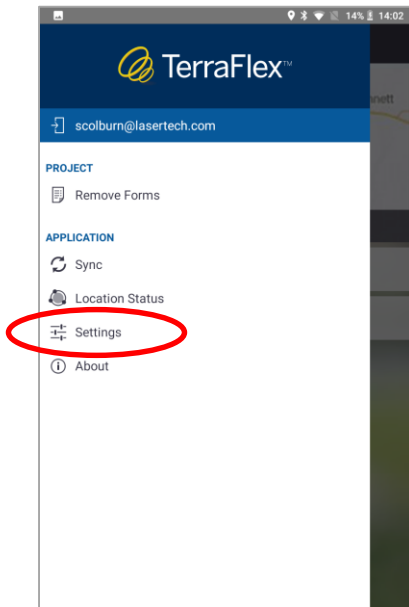

Figure 1
1. From the TerraFlex™ Menu bar, choose **Settings** (Figure 1)